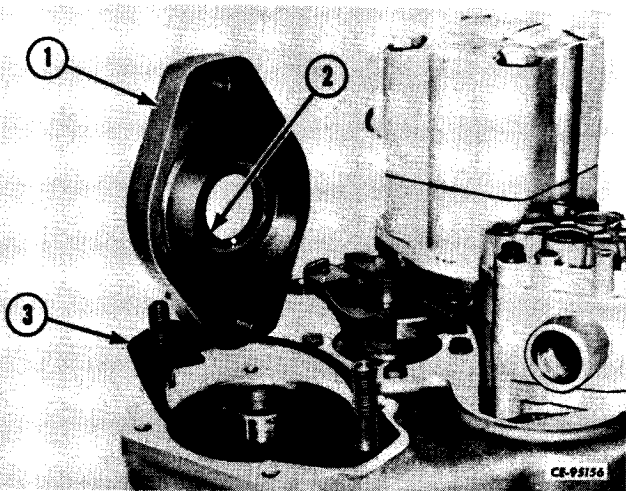

Figure 3-3
Mark the location of the hydraulic pumps with punch or chisel. Remove the pumps, adaptor plates (1, Fig. 3-3) and gaskets (3). Discard gaskets. Remove and discard seals (2) from adaptor plates.